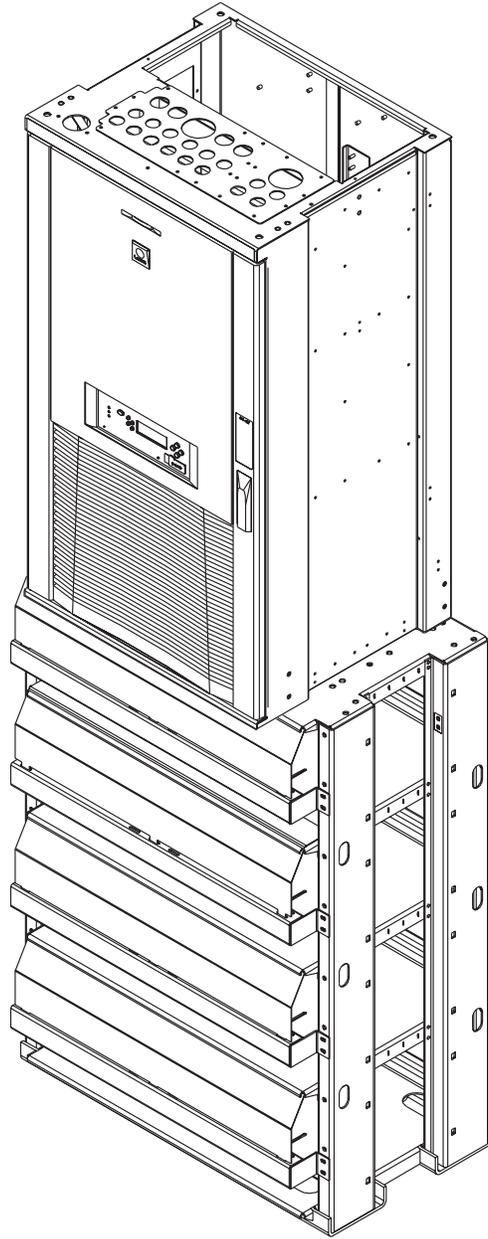

Figure 1-1: GPS 2424 Half Height Cabinet (with Battery Stand)
Figure 1-1: GPS 2424 Half Height Cabinet (with Battery Stand)	1 - 2
Figures 1-1 and 1-2 illustrate the GPS 2424 half height and full height cabinets.
- The half height cabinet, shown in Figures 1-1 and 2-2, mounts on top of a battery stand and can provide up to 800 amperes of dc power.